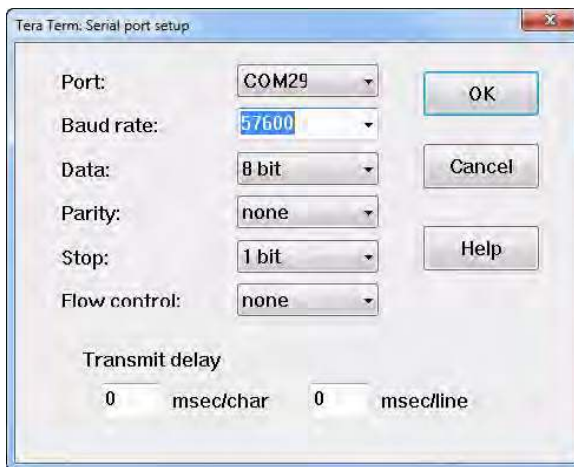

Figure 6. USB Serial Port Setup
4. Allow all remaining settings to remain at their default values, as shown in Figure 6. Click **OK**.